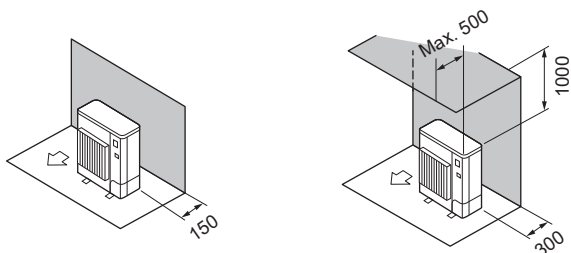

Fig. 2-7
(1) Solo ostacoli posteriori (Fig. 2-7)